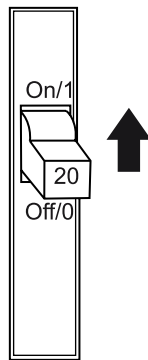

Figure 73. GFCI Circuit Breaker
2. Place a **GFCI circuit breaker** (Figure 73) in the **ON** position.